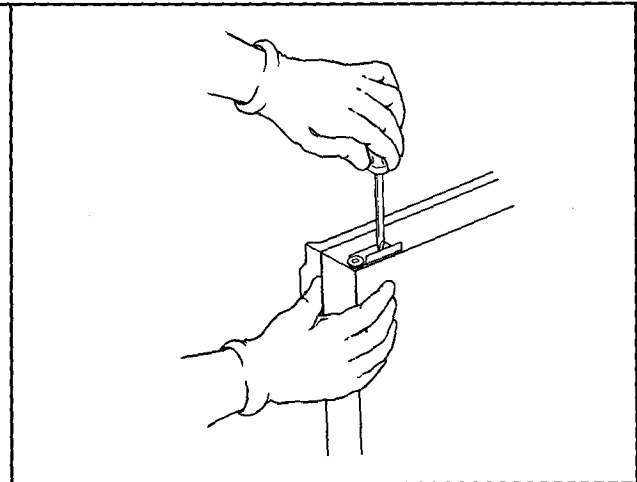

Figure 49
c. Repeat this process on freezer door. See Figures 49 and 50.
**⚠ CAUTION:** To Avoid Risk of Personal Injury or Property Damage have (2) two people help rehang each door, one person to hold door while other secures hinge pin.